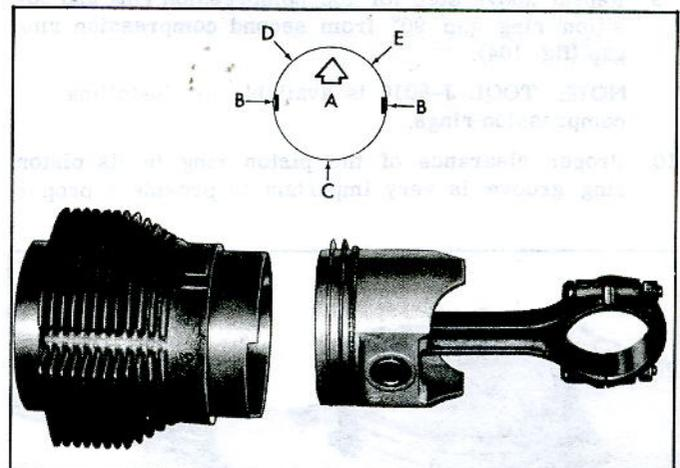
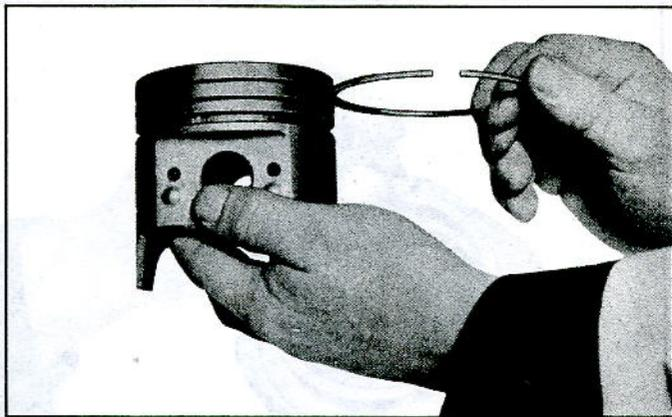

Fig. 104—Piston Rings Installed
Fig. 105—Rolling Ring in Groove
- Install the oil ring spacer in the oil ring groove and position gap so when piston is installed gap will be in line with engine bottom. (Anti-rotation tang will lock in oil slot.) Hold spacer ends butted and install steel rail on lower side of spacer. Position gap so when piston is installed gap will be in line with top of engine 45° from piston pin (fig. 104), then install
second rail on upper side of spacer. Position gap so when piston is installed gap will be in line with top of engine 90° from lower rail (fig. 104).
8. Slip the outer surface of the second compression ring into the piston ring groove and roll the ring entirely around the groove to make sure that the ring is free and does not bind in the groove at any point (fig. 105). If binding occurs, the cause should be determined and removed by carefully dressing with a fine cut file. However, if the binding is caused by a distorted ring, check a new ring. Install ring and position gap so when piston is installed gap will be in line with top of engine 45° from piston pin (fig. 104).
9. Repeat above step for top compression ring and position ring gap 90° from second compression ring gap (fig. 104).